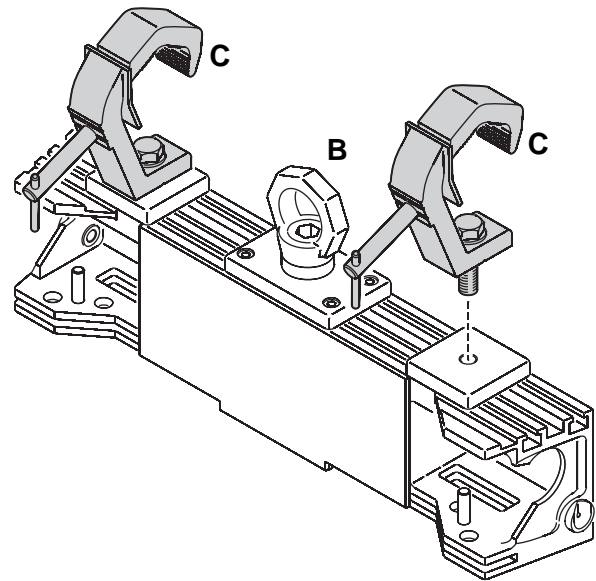

Figure 5: Rigging clamps
If suspending single independent columns of panels one panel wide from a truss, see Figure 5:
- See Figure 5. Obtain rigging clamps **C** that are approved for the total weight they will support. Fasten two clamps securely to each Header using M12 fasteners that are approved for the total weight they will support.